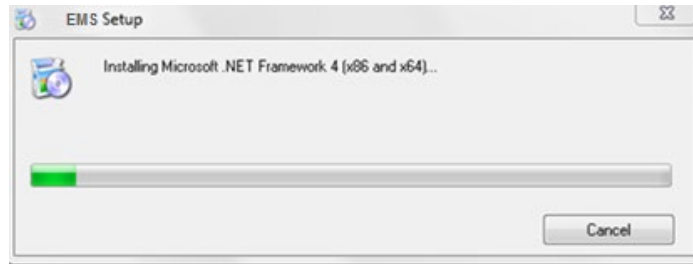
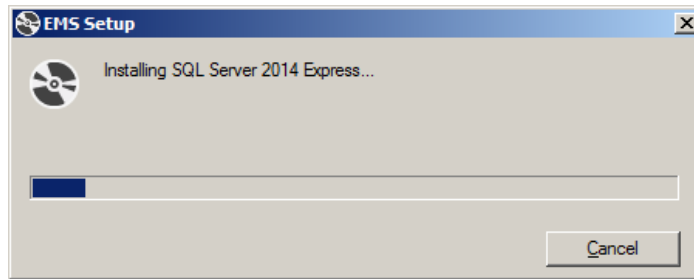

Figure 33
Figure 34
- The SQL Server 2014 Express installation continues and the following windows are displayed. See Figure 33 and Figure 34 below: